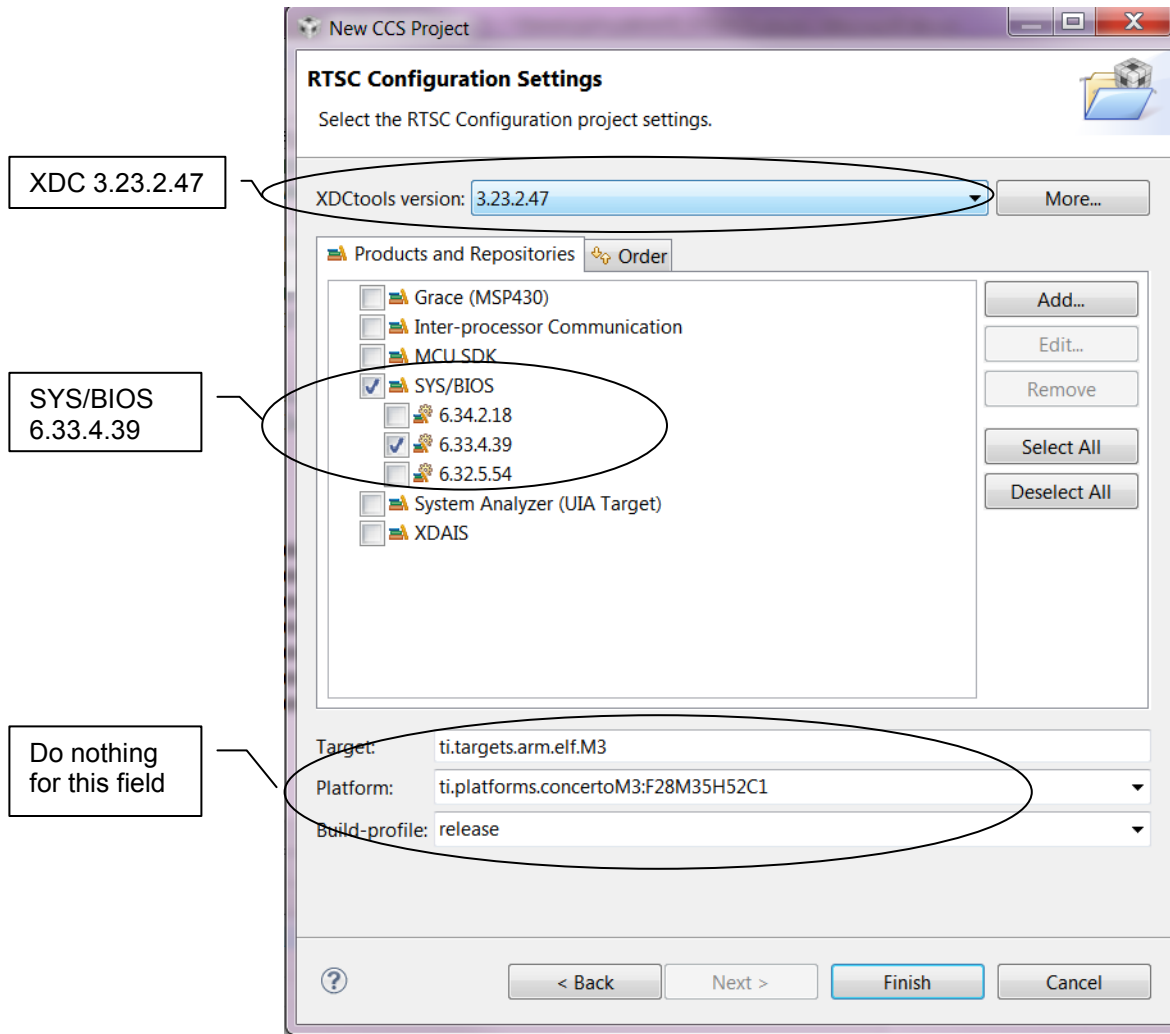

Figure 5. RTSC Configuration Settings for the SYS/BIOS Project
- When all items are entered, the [Next>] button is enabled. Click the [Next>] button; the RTSC Configuration Settings are displayed, as shown in Figure 5.